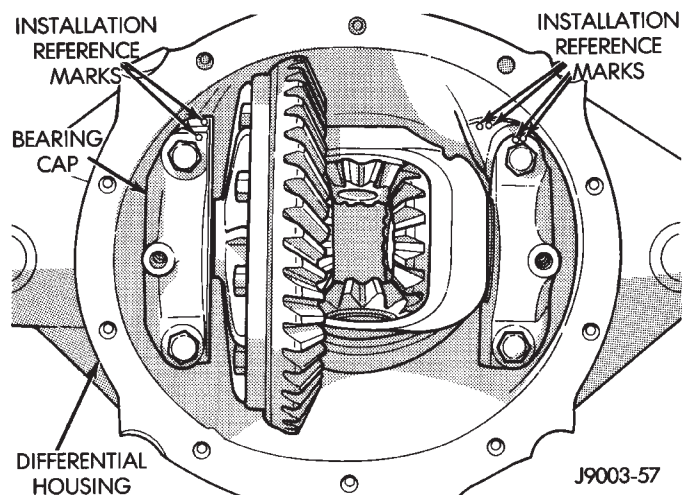

Fig. 19 Bearing Caps & Bolts
- (1) Apply a coating of hypoid gear lubricant to the differential bearings, bearing cups, and threaded adjusters. A dab of grease can be used to keep the adjusters in position. Carefully position the assembled differential case in the housing.
- (2) Observe the reference marks and install the differential bearing caps at their original locations (Fig. 19).